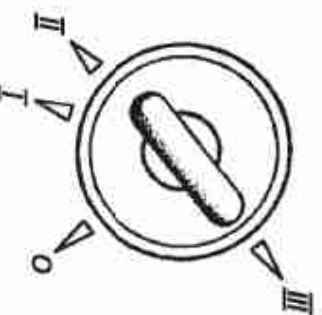

Fig. 3.5. Position of the key in the ignition switch (for position names, see the relevant text)
**29 — ignition switch** (UAZ-315148 — engine start switch) (Fig. 3.5). The ignition lock switch is fixed on the steering post with breakaway-head bolts to prevent dismantling of the ignition lock with anti-theft device using standard wrenches. At the Manufacturer's plant, the bolt heads are not broken away to retain possibility to remove the lock from the steering post during the pre-sale period. A consumer must make his/her own decision whether to break the heads away or not.